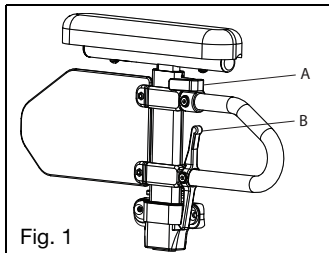

Fig. 1
- b. The armrest will automatically lock into place. Check to make sure the locking lever is as shown (Fig. 1:B).
- a. Rotate the release lever (Fig. 1:A).
- d. Push the arm pad until the upper arm locks firmly into place. Check to make sure the locking lever is as shown (Fig. 1:A).
- a. Squeeze the release lever (Fig. 1:B) and remove the armrest.